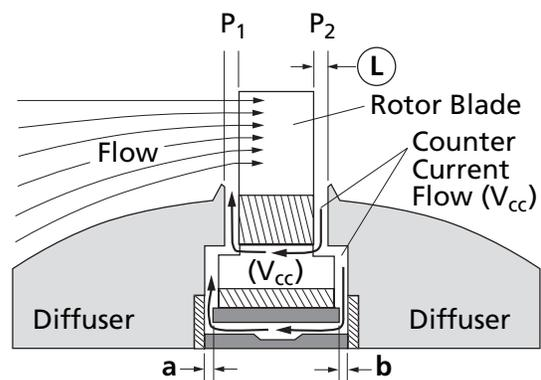

Figure 1 — Counter Current Flow
As liquid passes over the diffuser section (see Figure 1), it is accelerated onto a multi-blade hydrodynamically balanced turbine rotor. The rotor speed is proportional to the volumetric flow rate. As the rotor turns, a reluctance type pickup coil (mounted on the meter) senses the passage of each blade tip and in turn generates a sine wave output (with frequency directly proportional to the flow rate). Additional coils can be added in-phase for metering redundancy and API level "B" fidelity techniques as defined in API MPMS Chapter 5, Section 5. Coils can also be arranged out-of-phase for flow direction sensing.
The unique true fluid thrust bearing design eliminates the need for mechanical thrust bearings by nulling the downstream thrust produced by the flowing stream. This is achieved by developing a differential pressure (DP) across the rotor that opposes the flow, where P_2 is greater than P_1 (See Fig. 1).